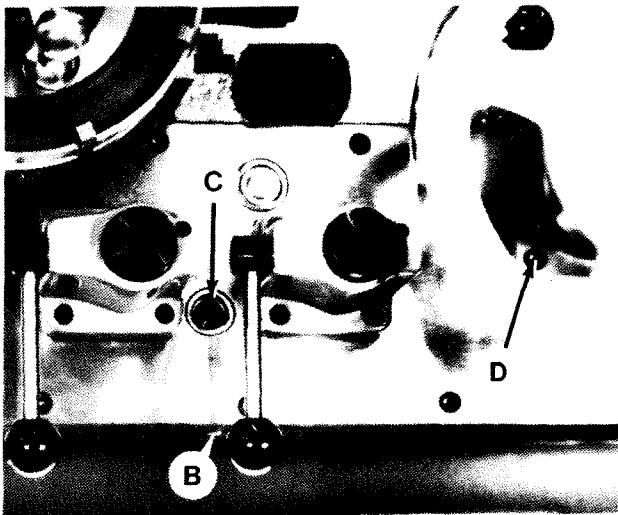
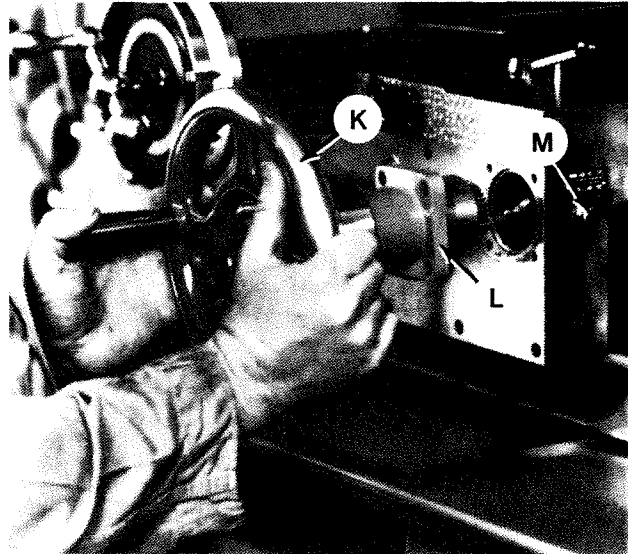

Figure 2.2 - Lubricant Sight Window and Drain Plug
Figure 2.5 - Carriage Handwheel Removal
2. Place a drain pan capable of holding one pint of liquid under drain plug "B", Figure 2.2 .
9. Remove four screws "D", Figure 2.2, and remove handwheel assembly "K", Figure 2.5 .
9. Apply Permatex sealant to the surface of handwheel housing "L", Figure 2.5, which will be against the carriage apron cover.
10. Remount handwheel assembly "K", Figure 2.5, and install four screws "D", Figure 2.2 .
- a) Remove reservoir cap "M", Figure 2.5 .
- b) Fill the apron reservoir with Mobilfluid[®] 350 or equivalent. The reservoir is full when sight gauge "C", Figure 2.2, is completely filled with oil.